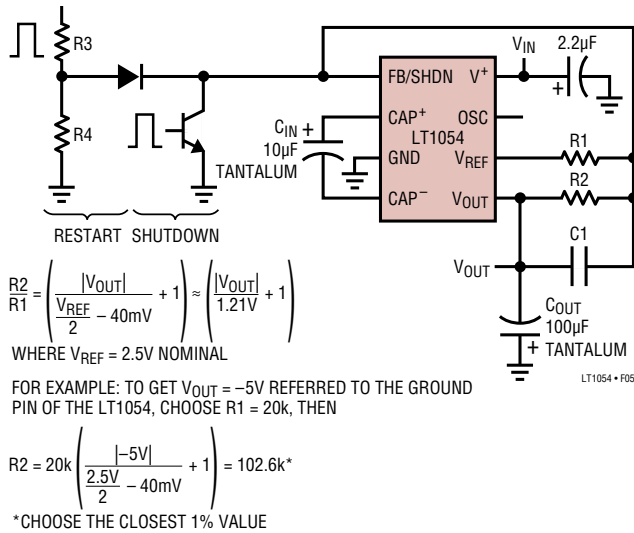

Figure 5.
**FB/SHDN (Pin 1):** Feedback/Shutdown Pin. This pin has two functions. Pulling Pin 1 below the shutdown threshold ( $\approx 0.45V$ ) puts the device into shutdown. In shutdown the reference/regulator is turned off and switching stops. The switches are set such that both  $C_{IN}$  and  $C_{OUT}$  are discharged through the output load. Quiescent current in shutdown drops to approximately  $100\mu A$  (see Typical Performance Characteristics). Any open-collector gate can be used to put the LT1054 into shutdown. For normal (unregulated) operation the device will start back up when the external gate is shut off. In LT1054 circuits that use the regulation feature, the external resistor divider can provide enough pull-down to keep the device in shutdown until the output capacitor ( $C_{OUT}$ ) has fully discharged. For most applications where the LT1054 would be run intermittently, this does not present a problem because the discharge time of the output capacitor will be short compared to the off-time of the device. In applications where the device has to start up before the output capacitor ( $C_{OUT}$ ) has fully discharged, a restart pulse must be applied to Pin 1 of the LT1054. Using the circuit of Figure 5, the restart signal can be either a pulse ( $t_p > 100\mu s$ ) or a logic high. Diode coupling the restart signal into Pin 1 will allow the output voltage to come up and regulate without overshoot. The resistor divider R3/R4 in Figure 5 should be chosen to provide a signal level at pin 1 of 0.7V to 1.1V.
The error amplifier of the LT1054 servos the drive to the PNP switch to control the voltage across the input capacitor ( $C_{IN}$ ) which in turn will determine the output voltage. Using the reference and error amplifier of the LT1054, an external resistive divider is all that is needed to set the regulated output voltage. Figure 5 shows the basic regulator configuration and the formula for calculating
REFER TO FIGURE 5